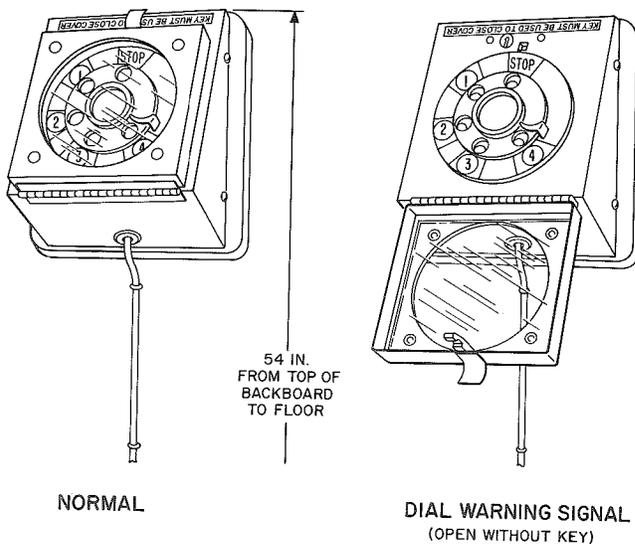

Fig. 1—Wall Mounted Dial Assembly
2.11 When the dial assembly is wall mounted, its location should be unobstructed (Fig. 1).